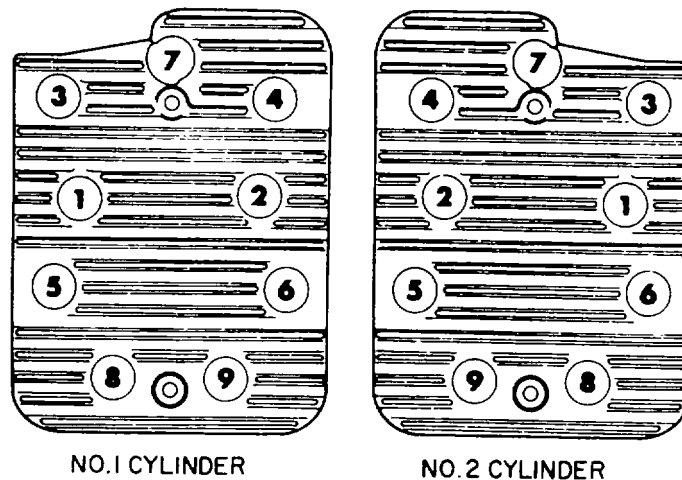

Figure 6-15. Cylinder Head Bolt Tightening Sequence
(1) Install new cylinder head gasket (166) on crankcase.
(2) Align holes in gasket (166) and cylinder head (161) with holes in crankcase with nine screws (163 & 165) and washers (164). Tighten screws to a torque of 5 foot-pounds; then 1 foot-pounds, etc. until all are torqued to 29 to 31 footpounds (6.78 to 42. 036 Newton-Meters). Refer to figure 6-15 for head bolt tightening sequence.
(3) Install spark plug (84), gasket (85) and connect ignition cables (220 &221).